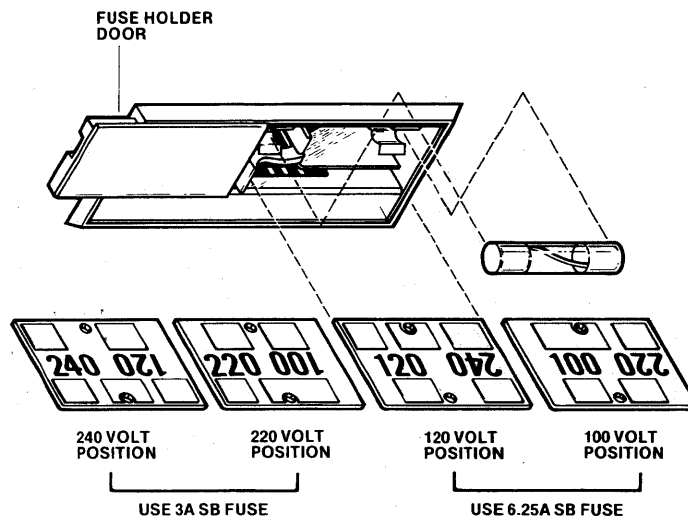

Figure 2-11. Mainframe Voltage Switching Card and Fuse
- p. On rear panel of mainframe, disconnect power cord (if connected) and slide fuse holder door on main power socket to left as shown in figure 2-11. Remove voltage switching card and reinstall it in position corresponding to your